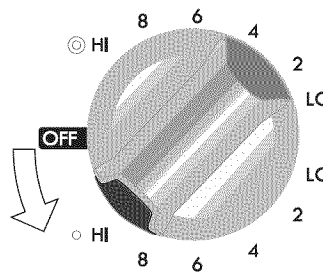

Figure 3
2. Push in and turn the control knob counterclockwise (See Figure 3) for smaller cookware or clockwise (See Figure 4) for larger cookware.